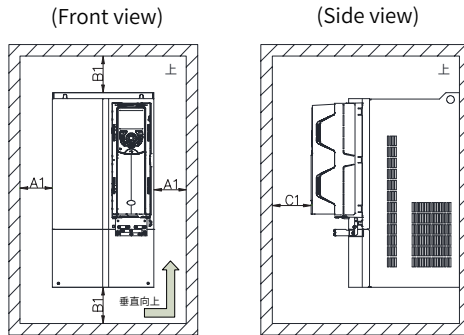

Figure 2-3 Installation clearance of an individual drive (T2 to T9)
- ◆ The installation clearance is shown in Figure 2-3. Reserve sufficient clearance for heat dissipation of the drive and other devices in the same cabinet.